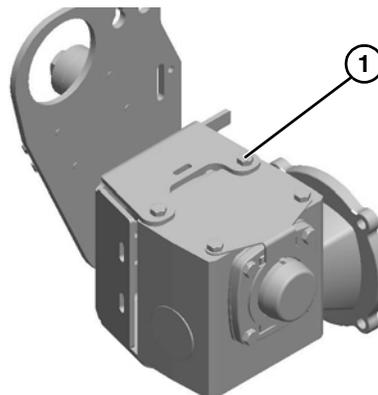

Figure 26
10. Install gear reducer to mounting bracket and tighten bolts (**Figure 26, item 1**).